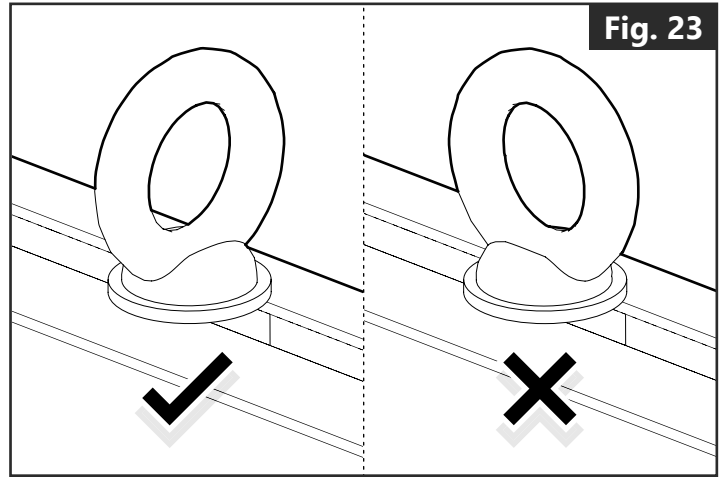

Fig. 23
- If the eye bolt accessories are used to secure cargo, make sure the eye bolts are fastened securely, and aligned perpendicular to the bolt rails. If the bolts are not aligned correctly, they may become loose. **(Fig. 23)**